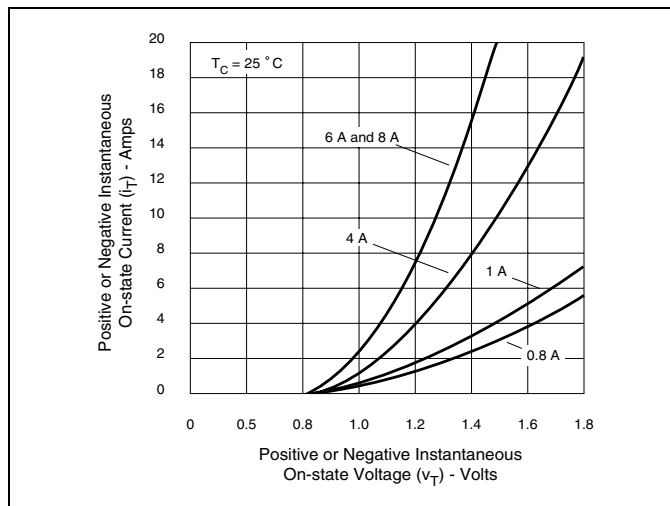

Figure E1.4 On-state Current versus On-state Voltage (Typical)
- (1) For either polarity of MT2 with reference to MT1 terminal
- (2) For either polarity of gate voltage V_{GT} with reference to MT1 terminal
- (3) See Gate Characteristics and Definition of Quadrants.
- (4) See Figure E1.4 for I_T versus v_T .